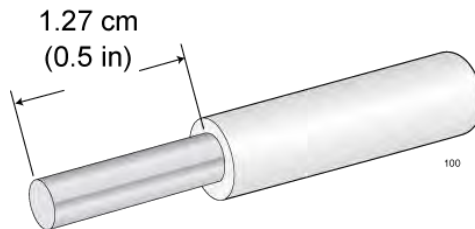

Figure 49. Stripping the Grounding Wire
1. Prepare an adequate length of stranded grounding wire (10 AWG) for the ground connection by stripping it as shown in Figure 49.